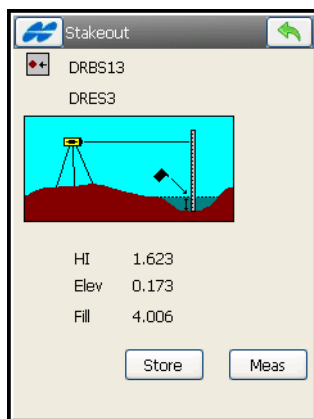

Figure 9-68. Level Stakeout
3. On the level *Stakeout* screen (Figure 9-68) tap the **Meas** button to measure the elevation and compute a cut/fill value. Tap **Store** to set a code for the point, the name, a photo note and the layer name and plotting parameters. You can also view the elevation information and save the staked point.